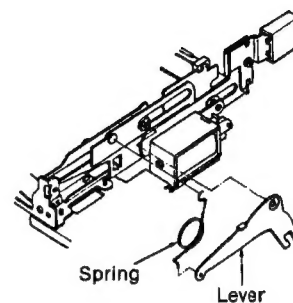

Fig. 12
(1) Insert the lever and spring in mechanism, as shown in fig. 12.